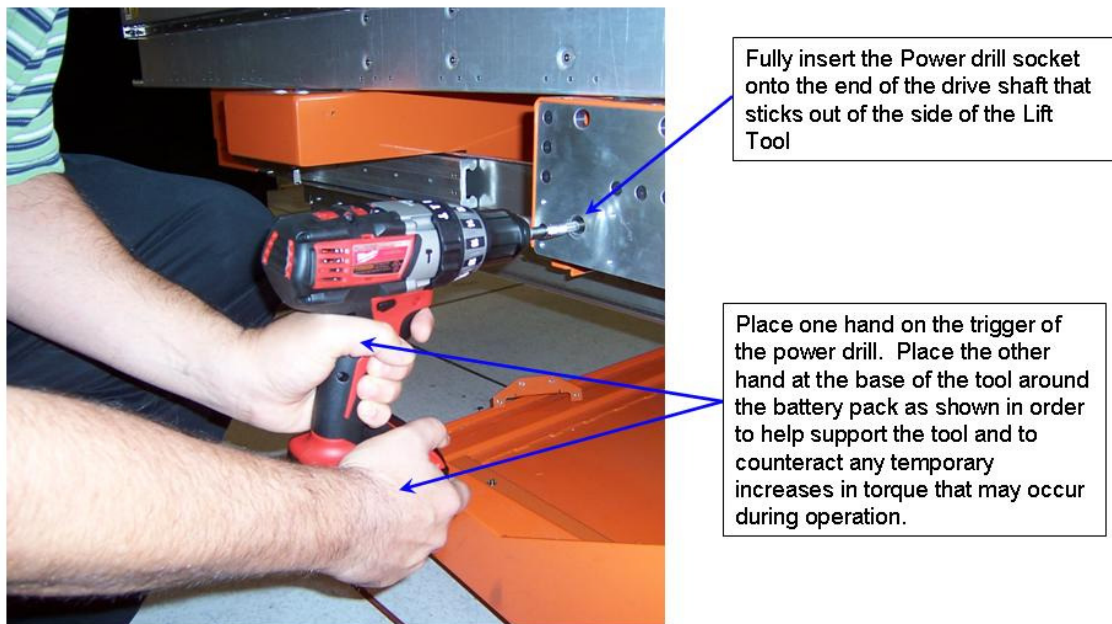

Figure 19 Power Drill Operation – Correct Technique
- Use two hands to operate the battery powered drill as it is a high torque tool (see Figure 19).